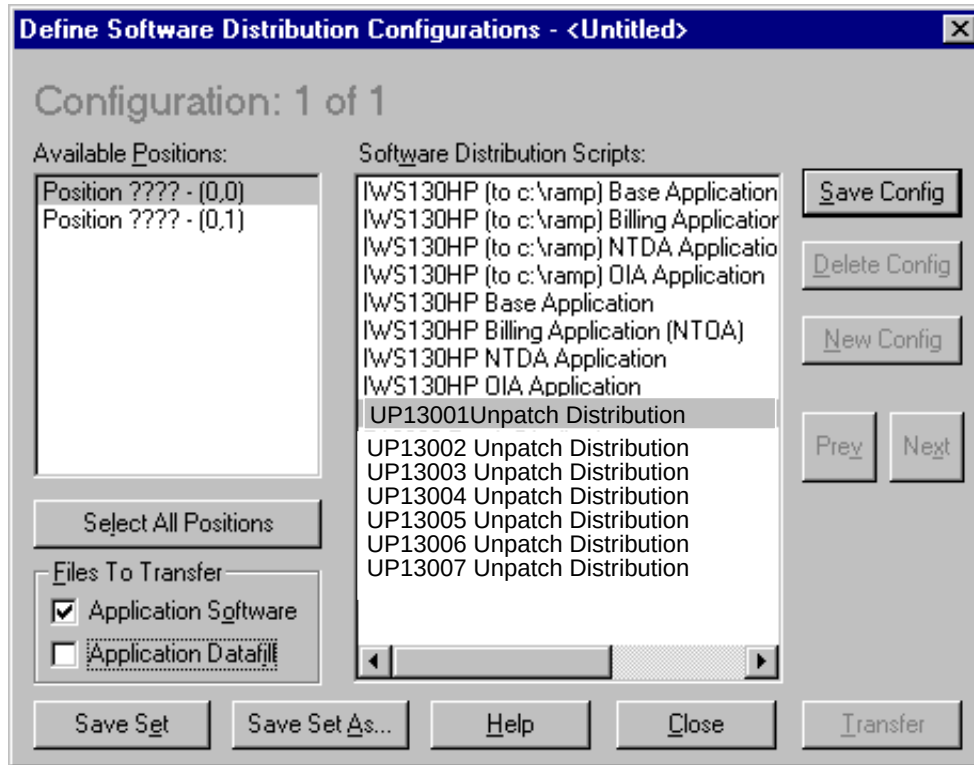

FIGURE 63. Example Software Distribution Dialog Box with Patching Files
3. **Press Alt+N to select New. This opens the Define Software Distribution Configurations dialog box, shown in Figure 63. In this window, you will define a configuration set to remove the patches from the appropriate positions.**